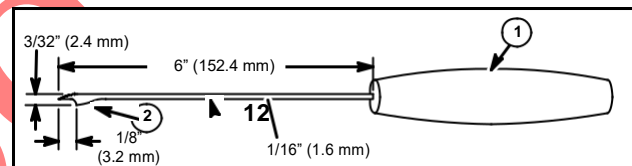

Fig. 13
A rope inserter tool may be made by using a piece of music wire or spring wire 1/16" diameter, and flattening the end (2) as shown in Fig. 13.
2. Insert rope through wood handle (1) and tie a fig-ure eight knot, Fig. 13.